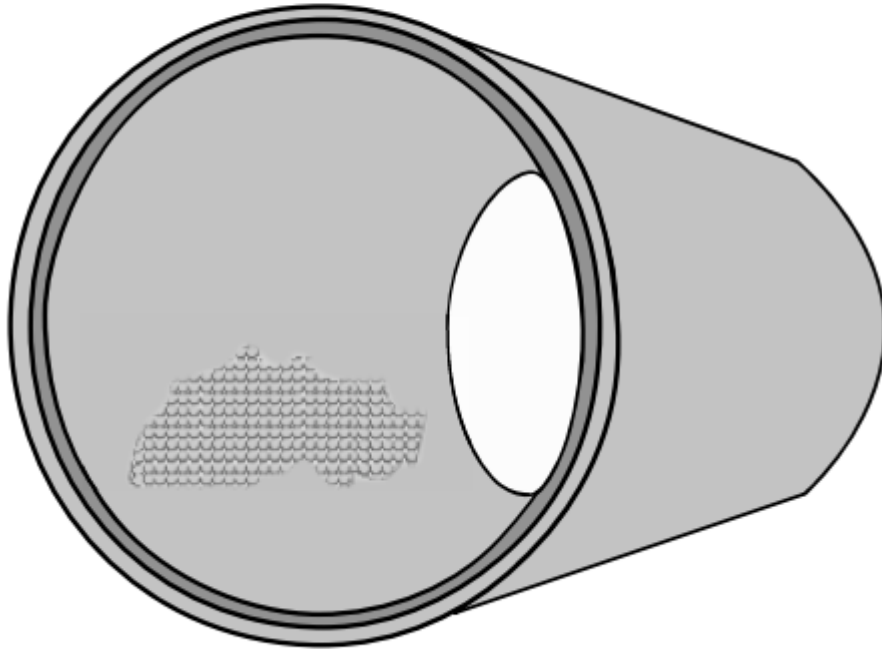

Figure 32—Rejectable Manufacturing Defect—Honeycombing (Courtesy of ACPA)
- 6.4.4.1. Honeycomb or bleedout that extends to a depth greater than the size of the coarse aggregate and exposes reinforcing steel or causes concrete permeability beyond the project specification for leakage, which either occupies a single defect area greater than 4 percent or a cumulative area greater than 10 percent of the internal surface area of the product, as shown in Figure 32, shall not be repairable.